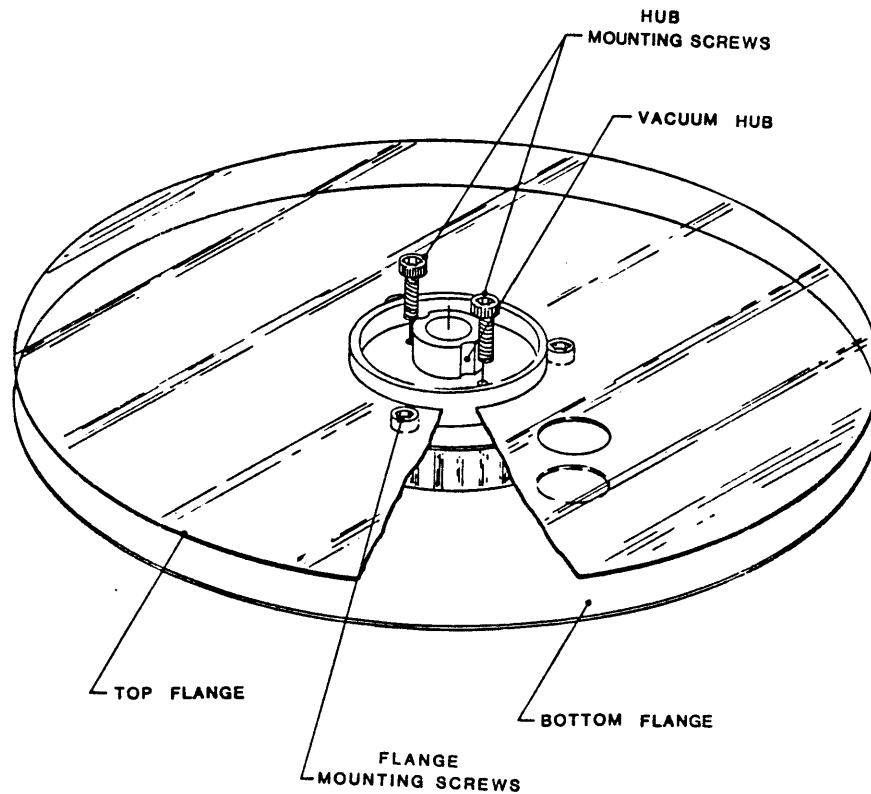

Figure 5-6. Takeup Reel Assembly
5.3.7 TAKEUP REEL ASSEMBLY (Fig. 5-6)